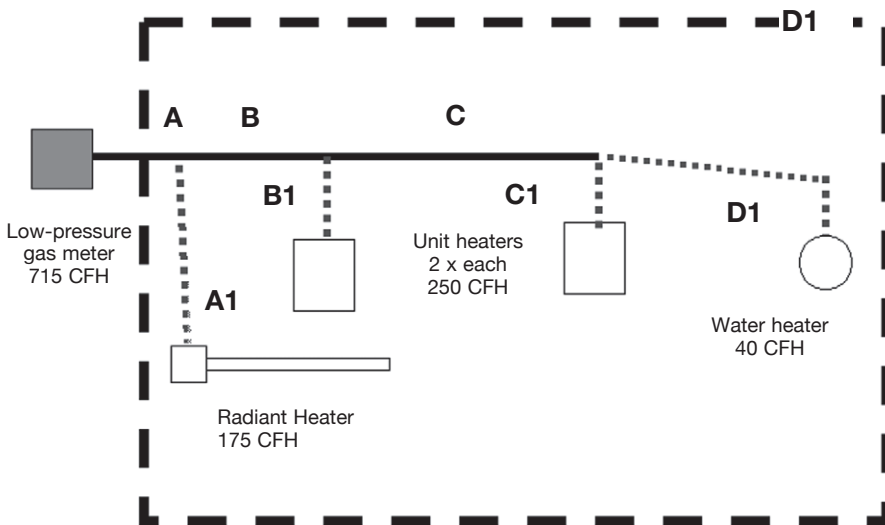

Figure: 3-5
1. The system shown in Figure: 3-5 is a typical commercial building with 4 appliances. The gas pressure for this example is standard low pressure with 6-inch supply pressure and 0.5 inch pressure drop.